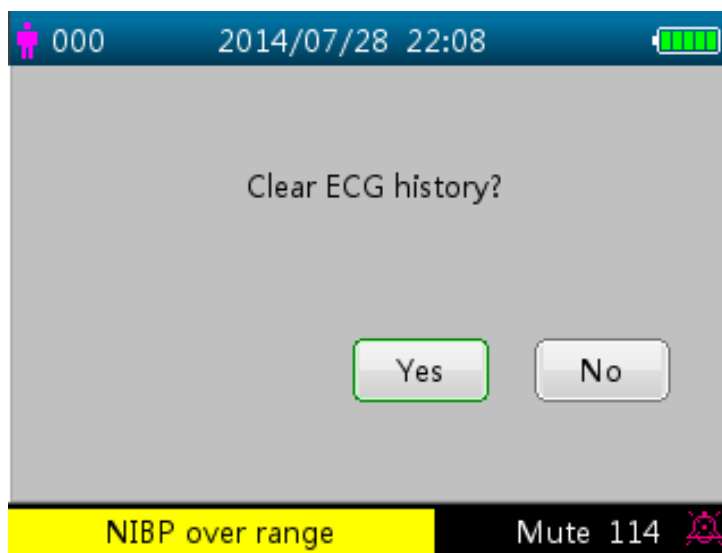

Figure 4.5 Delete ECG history
- Long pressing OK "  " key, then a dialog of deleting records pops up, as shown in figure 4.5, the user can delete all history ECG waveform data according to prompt.